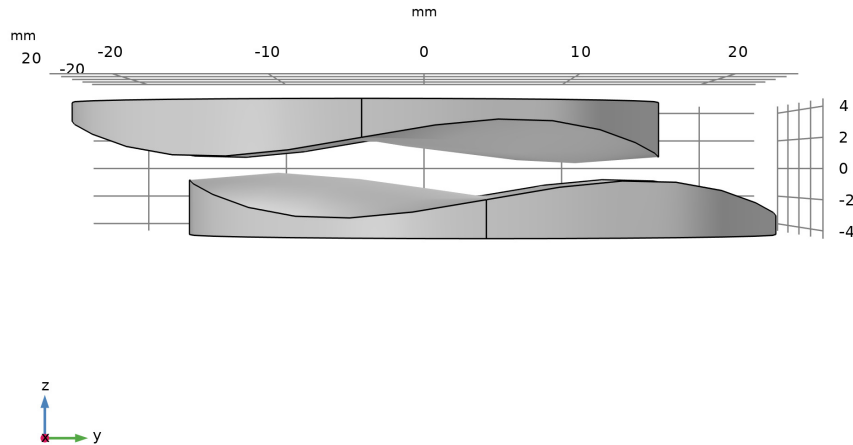

Figure 1: Alvarez lens where the cubic surfaces are laterally shifted to achieve variable optical power.
the relative shift in the y direction to observe the change in the optical power. The geometry shown in Figure 1 is generated using the parameters in Table 1.
- 8 Click the  **Go to YZ View** button in the **Graphics** toolbar. The geometry should look like Figure 1.